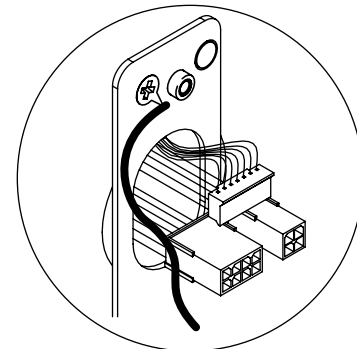

Figure 15
1. Connect pin 5 green/yellow ground wire ring terminal (from inside trim) to top left screw. (Figure 15)